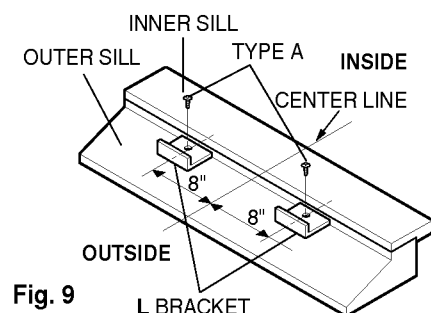

Fig. 9
- b. The bracket helps to hold the unit securely in place. Be sure to place bracket edge flush against back of inner sill. See Fig. 9.
- a. Carefully lift the air conditioner and slide it into the open window. Make sure the bottom guide of the air conditioner drops into the notches of the **L** bracket. See Fig. 9.